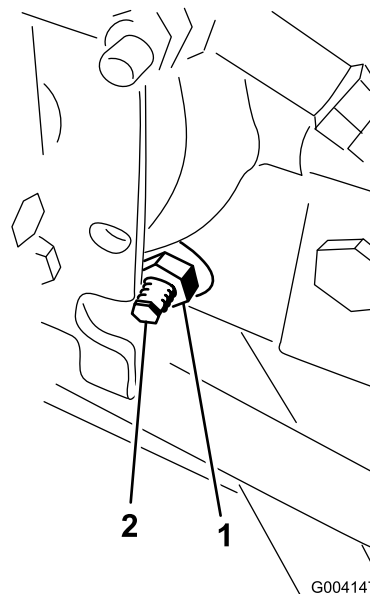

Figure 67
3. On the right side of the hydrostat, loosen the locknut on the traction adjustment cam (Figure 67).